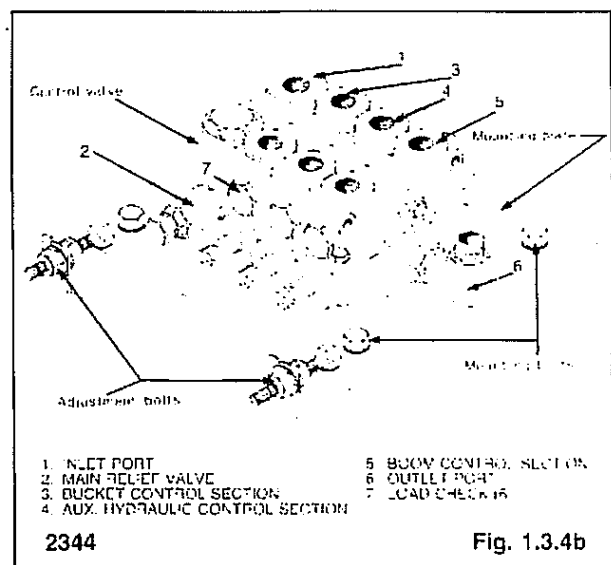

Fig. 1.3.4b
5. Disconnect the line between the hydraulic gear pump outlet and control valve inlet (fig. 1.3.4b). Cap the hydraulic line and plug the control valve inlet port.
6. Disconnect the line from the control valve outlet port (fig. 1.3.4b). Cap the hydraulic line and plug the control valve outlet port.